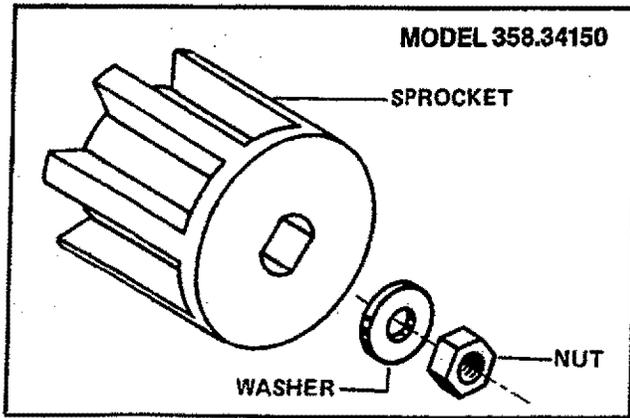

Figure 48
- d. Slide washer from shaft. Figure 48 & 49.
- f. Reverse procedure to install sprocket. See Figures 48 & 49.